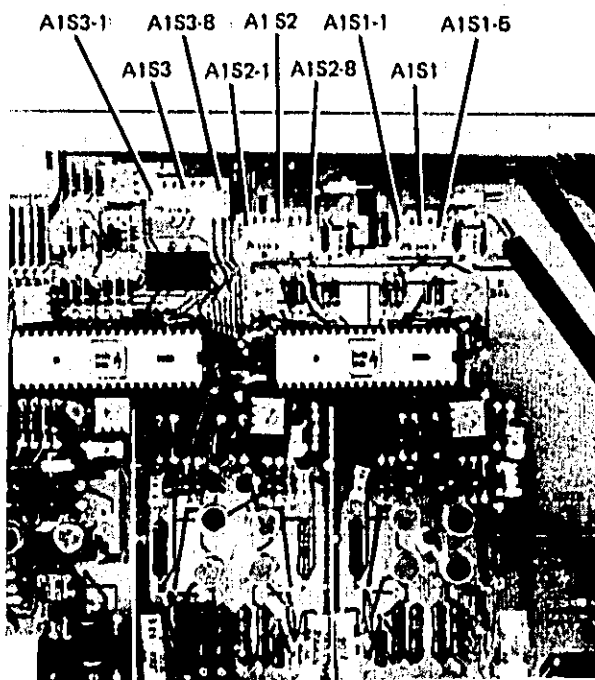

Figure 3-1. Input Attenuation and Bandwidth Selection Switches
The instrument is normally shipped with the input attenuator switches set for the 1-volt full scale, high-input impedance configurations. For other input configurations refer to table 3-1 and figure 3-1.
**3-7. BANDWIDTH REDUCTION.** In certain cases, the full 3-MHz bandwidth of the deflection amplifiers is not required. In fact, in some applications it may be desirable to reduce the bandwidth to eliminate system noise problems. The X- and Y-amplifier bandwidth can be limited by disengaging the following input attenuation and bandwidth selection switches (see figure 3-1 for switch location):
**3-8. INPUT POLARITY SELECTION.** The X-, Y-, and Z-amplifiers can be conditioned by the input attenuation and bandwidth selection switches for input signals with different polarities. To condition the equipment for different polarity signals, set applicable switches as indicated in table 3-2. (See figure 3-1 for switch location.)